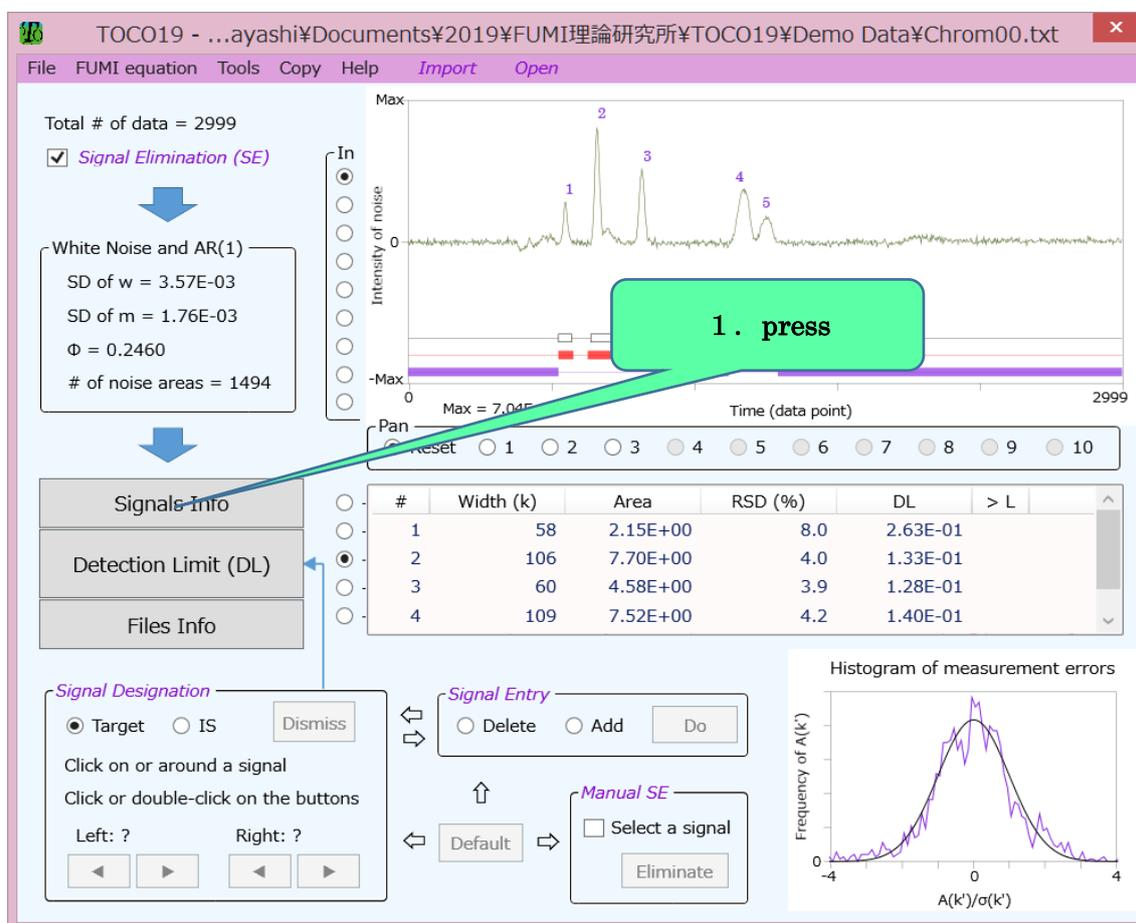

Figure 4 --- Main window
1. press the Signals Info button after a data file has been imported (see Fig. 4);